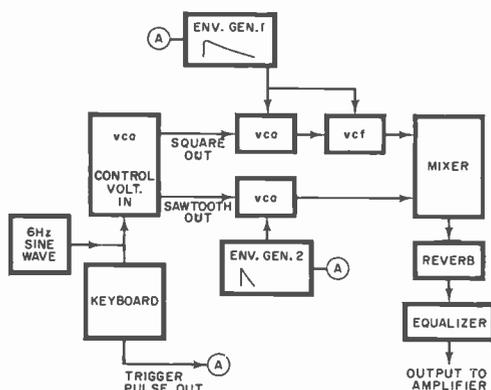

Fig. 8. One typical way of interconnecting blocks of synthesizer system.
**Assembling a Synthesizer.** A modern synthesizer contains most of the building blocks mentioned above. To give an idea of how these blocks might be put together to make a sound, Fig. 8 shows in block diagram form a representative method of interconnection (traditionally with the aid of patchcords). The heart of the system is the vco, its frequency determined primarily by the control voltage from the keyboard. By properly tuning the keyboard, it is possible to generate a chromatic scale. In addition, a 6-Hz sub-audio sine-wave control voltage vibrato-modulates the primary frequency.